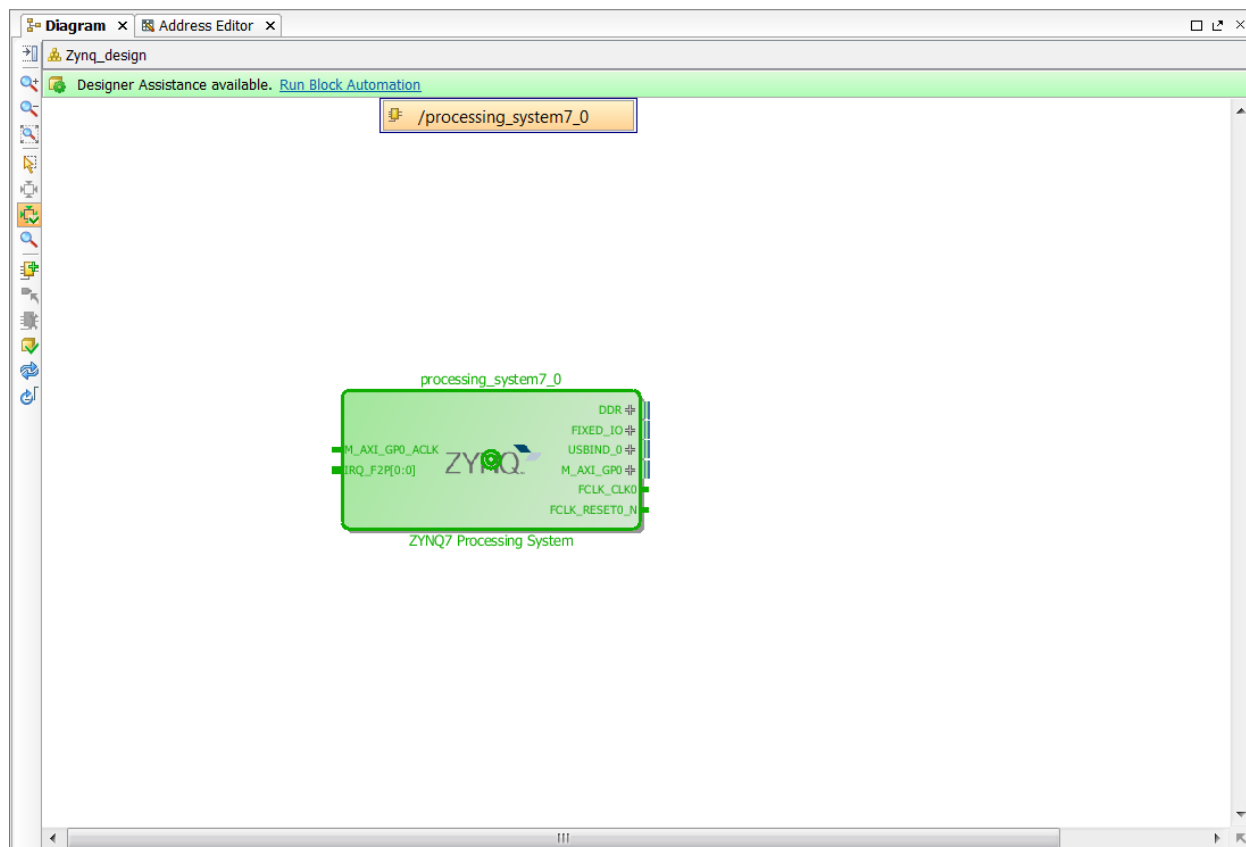

Figure 232: Run Automation
6. Click the **Run Block Automation** link under the title bar (**Figure 232**).
- b. Ensure **Apply Board Presets** is **Unselected**. If this remains selected it will re-apply the timers which were disable in step 4 and result in additional ports on the Zynq block in **Figure 232**